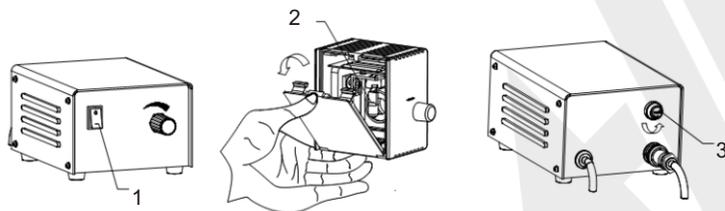

Fig.15
(1) Turn off the power switch 1, and unplug the power cord, as shown in Fig.15-a.
(2) Wait at least 30 minutes until the bulb and its surroundings have cool down. This is to prevent hand getting burnt by heat.
(3) Catch hold of the lamp house back cover and pull out backward , take out the defective bulb and replace a new one. Close the back cover again.
(4) Connect the power cord and turn on power switch.
(5) Check and adjust the center of the bulb according to the above-mentioned centering method for alignment of illuminator in the inverted microscope .